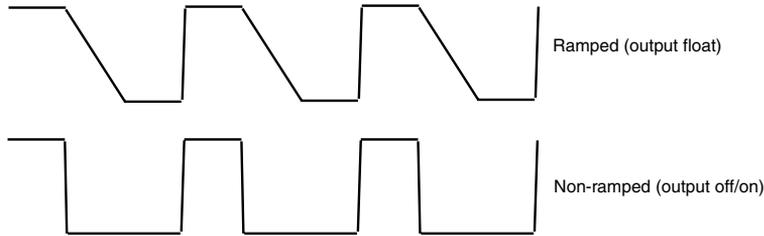

FIGURE 13.6 The RCX uses pulse-width modulation to vary the power level of its three outputs. The pulses can be steep square waves, or they can be ramped.
- When you are using a reduced power mode, the voltage to the outputs is “chopped” at a frequency of 8 milliseconds between pulses, as shown in Fig. 13.6. The ratio of on-time versus off-time determines the power delivered through the output. Note that the output has two modes: float and on/off, as shown in Fig 13.6. When in float mode, the output ramps from full voltage to 0 volts. In on/off mode, the output toggles from HIGH to LOW with no ramping.